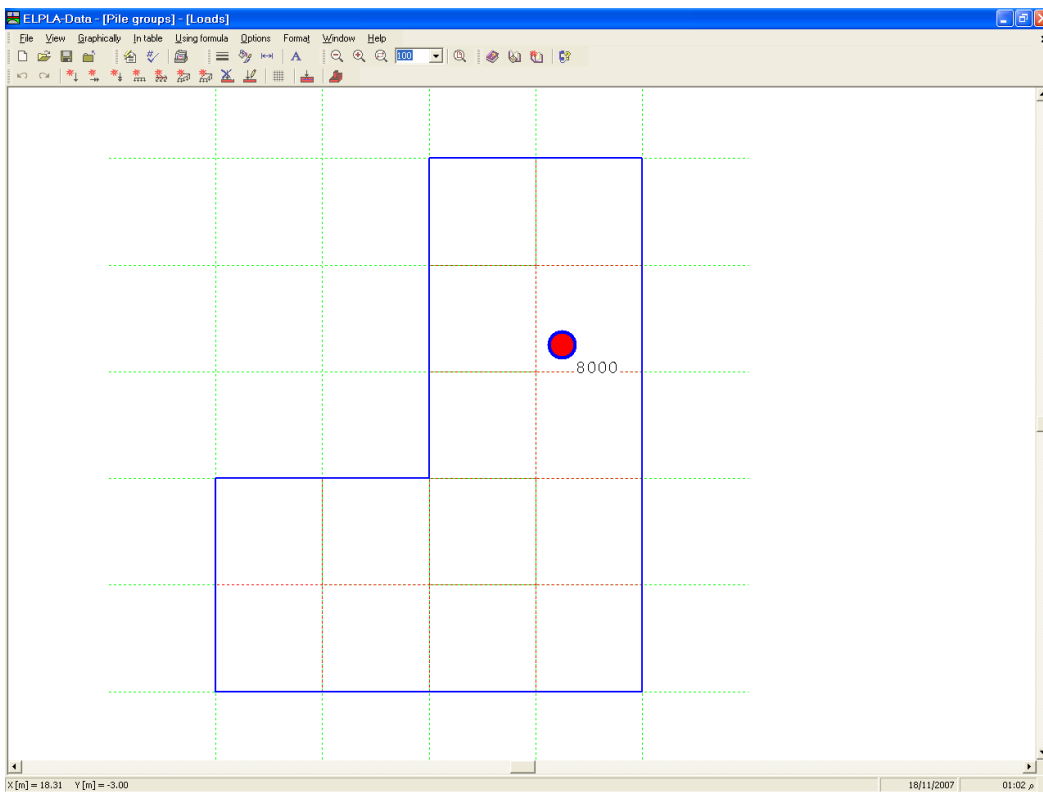

Figure 11-33 Loads on the screen
- Choose "Save loads" command from "File" menu in Figure 11-33 to save the load data
- Choose "Close loads" command from "File" menu in Figure 11-33 to close the "Loads" embedded program and return to the main window of *ELPLA-Data*